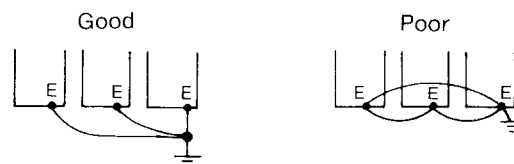

Fig. 4.3 Grounding of Three VS-626MT III Units
(3) Make a positive grounding using ground terminal E on the casing of VS-626MTIII.
- Where several VS-626MTIII units are used side by side, all the units should preferably be grounded directly to the ground poles. However, connecting all the ground terminals of VS-626MTIII in parallel, and ground only one of VS-626MTIII to the ground pole is also permissible (Fig. 4.3). However, do not form a loop with the ground leads.